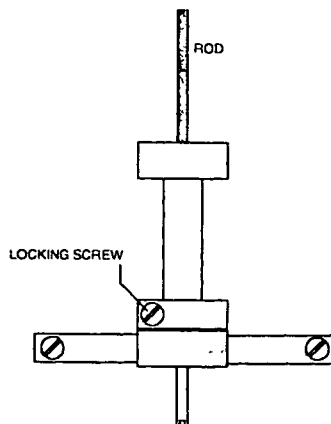
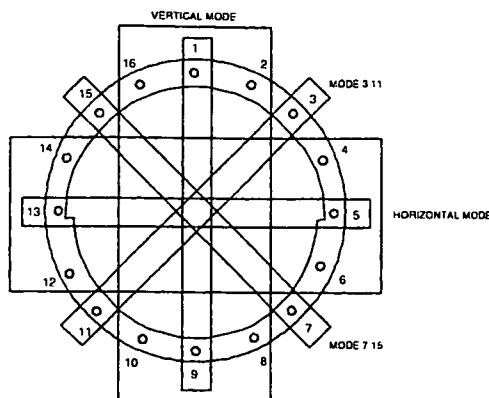

Figure 21 QBC trimmer in detail
Figure 22 QBC frequency modes
15. On the front side and the back side of the QBC you can find the adjustment screws for the trimmers. Loosen the screws that lock the trimmers for all QBC rods (see Figure 21 and Figure 22).
To adjust the QBC, use the following trimmers according the measured offset: (See Figure 22)